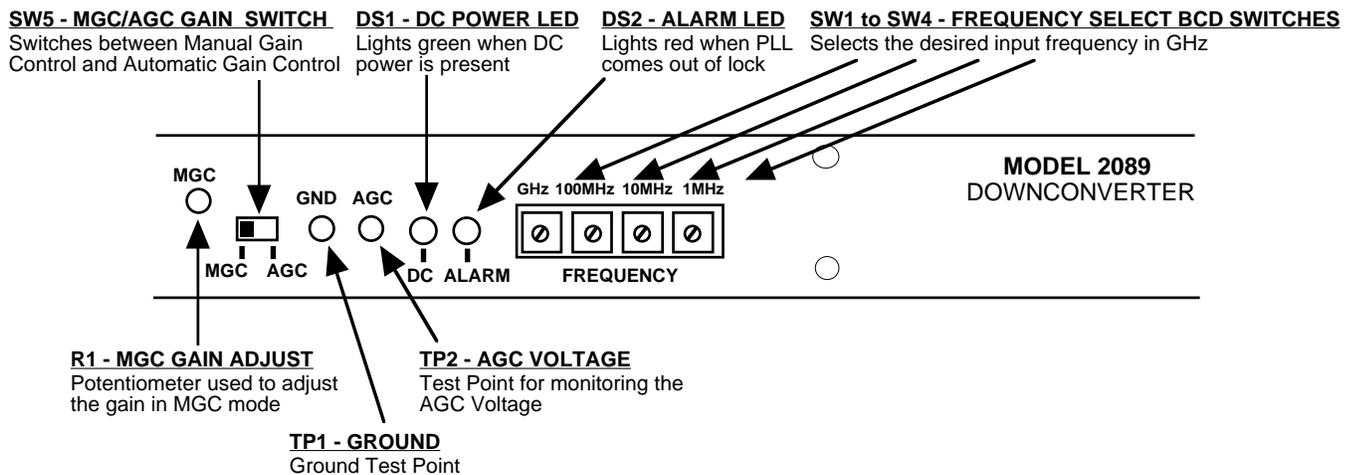

FIGURE 2.3 2089-24 Front Panel Controls and Indicators
2.3 Front Panel Controls and Indicators - Figure 2.3 shows the controls and indicators located on the front panel.
- 2.) Select MGC or AGC with toggle switch SW5 (Figure 2.3).